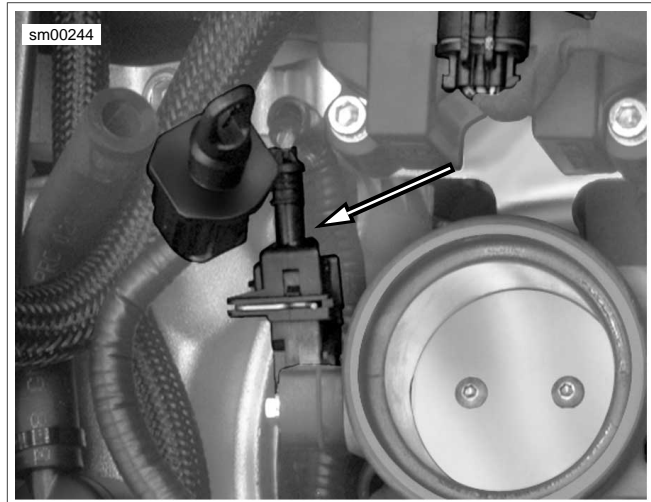

Figure 4-10. Throttle Position Sensor Connector Location
3. See Figure 4-10. Disconnect throttle position sensor connector [88].